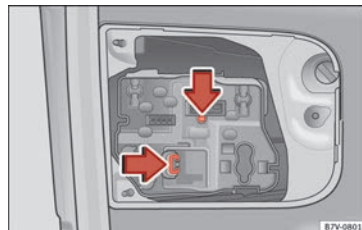

Fig. 111 On the rear lid: remove the bulb-holder.
4. Press on the attachment tabs in the direction of the arrow » Fig. 111 and pull out the bulb holder.